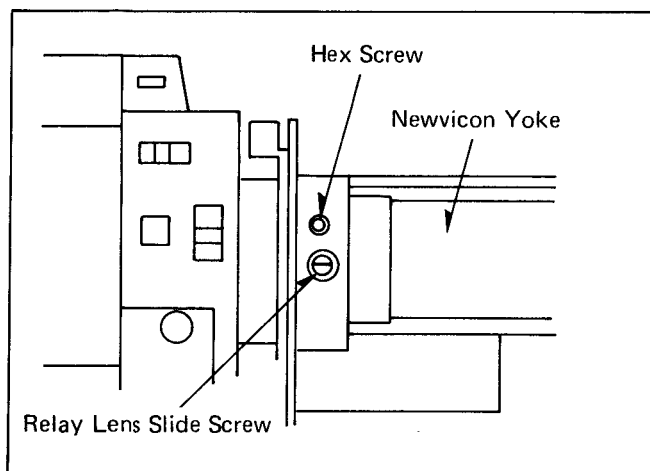

Fig. 16
- Loosen the hex screw using a 1.5mm hex wrench on the relay lens. (See Fig. 16.)